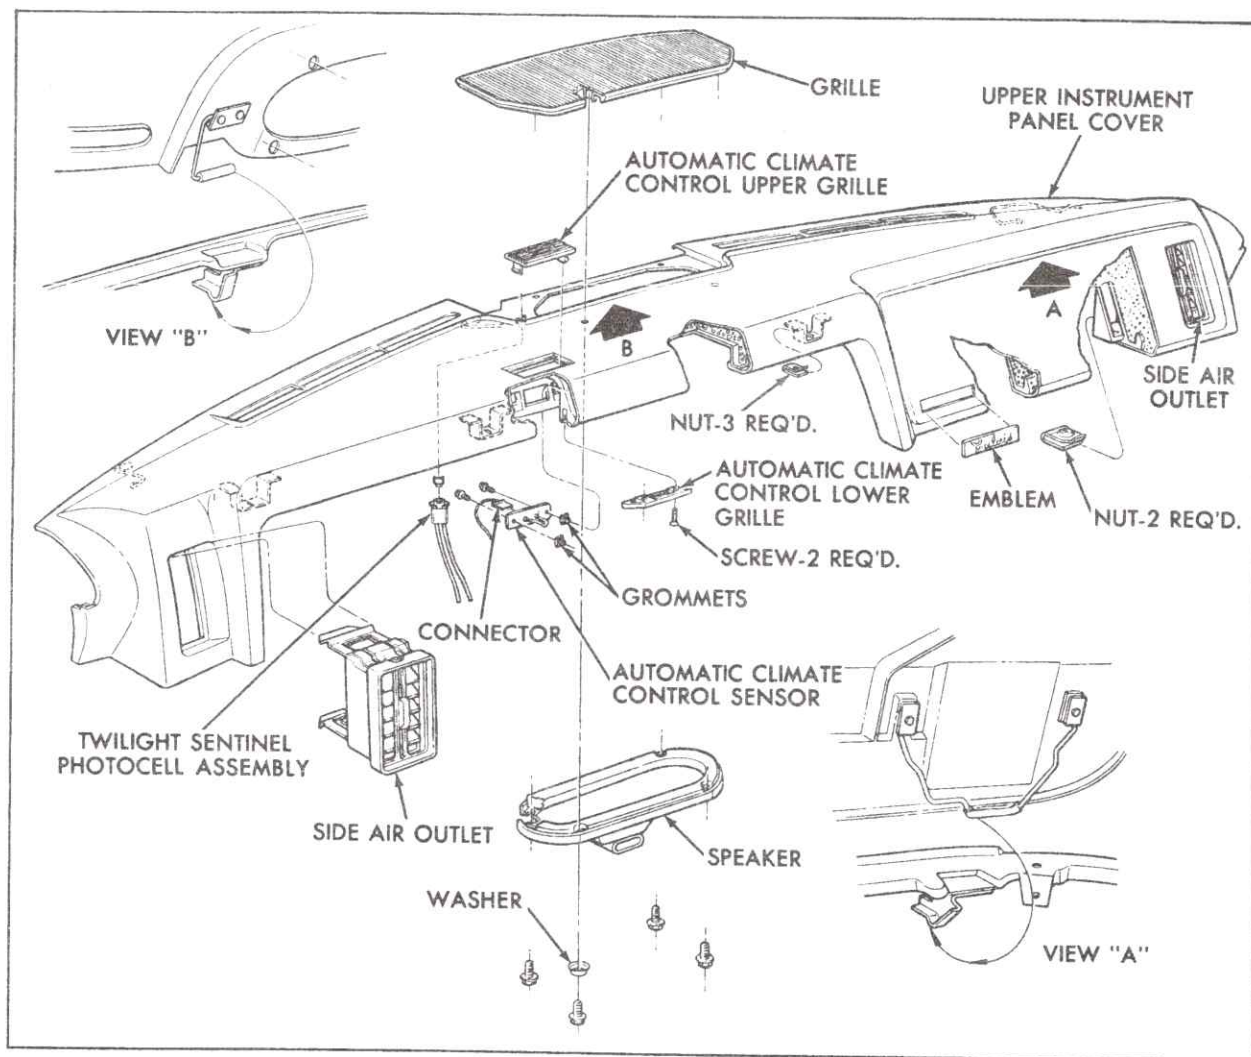

Fig. 12-46 Instrument Panel - Perspective 5
2. On all but AM/FM-Stereo radios, remove four screws and one washer that hold radio front center speaker to grille and remove front speaker, Fig. 12-46.
1. On all but AM/FM-Stereo radios, position front center speaker on upper instrument panel cover and grille. Secure with four screws and one washer. Washer goes at left front mounting screw, Fig. 12-46.